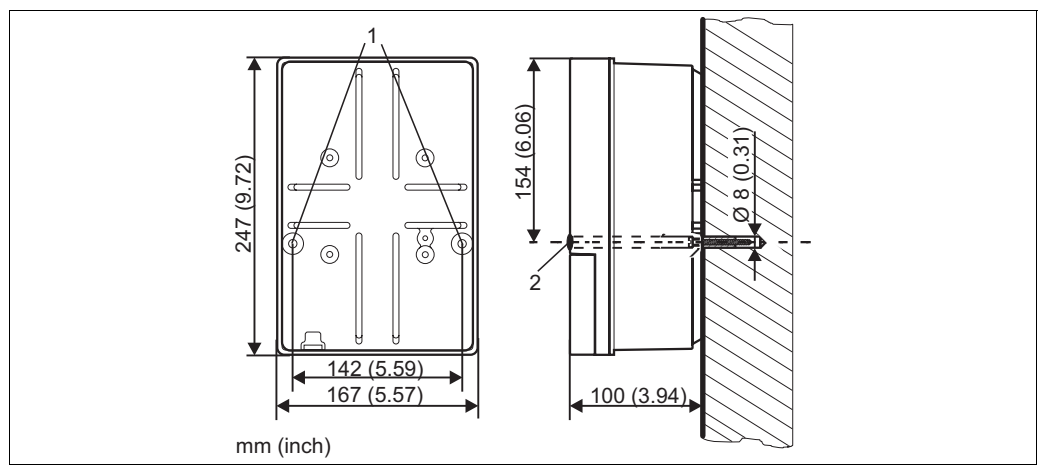

Fig. 10: Dimensions for wall mounting, securing screw: $\text{Ø } 6 \text{ mm}$ (0.24"), wall plug: $\text{Ø } 8 \text{ mm}$ (0.31")
1. Bore the holes as per Fig. 10.
2. Push the two securing screws from the front through the securing bores (item 1).
4. Cover the bores with the plastic caps (item 2).